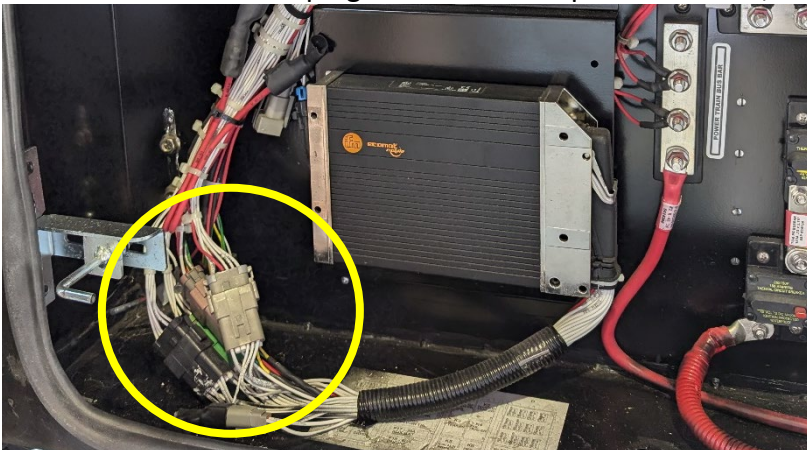

Figure 4
2. Locate the connection plugs on the chassis power harness, see figure 4.